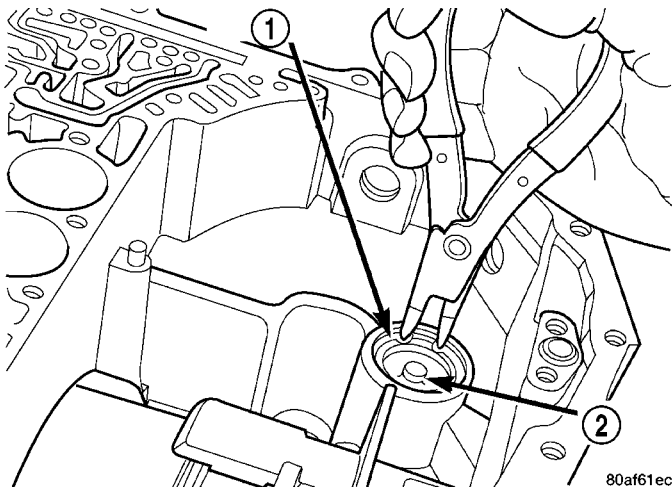

Fig. 151 Install Low/Reverse Accumulator Snap Ring
(61) Install low/reverse accumulator snap ring (Fig. 151).